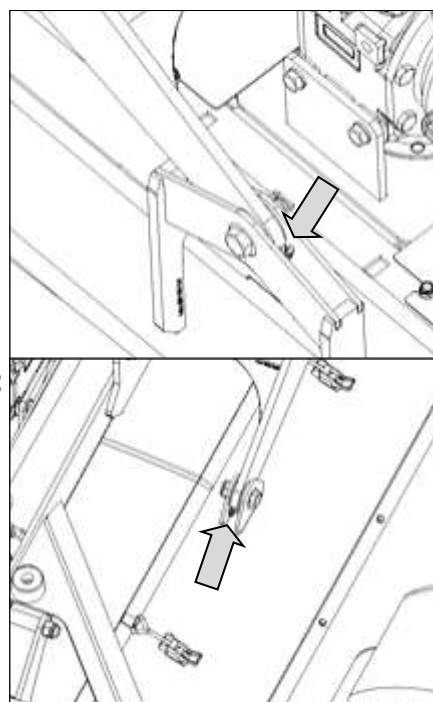

Fig. 47
3. **Roll pivots:** Lubricate **every 40 hours or weekly**. Each mower deck pivots from side to side on bushes located in the centre of the mower body at the front and rear (Fig. 47). Each pivot bush has a greaser fitted and should be given **2 pumps** of multi-purpose grease.